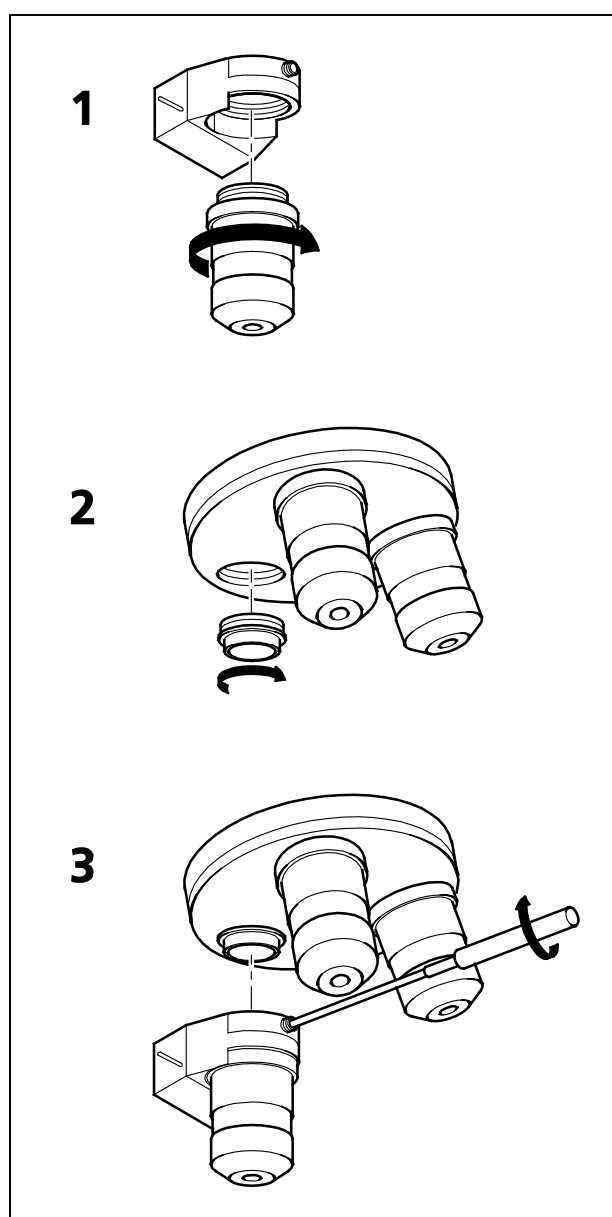

Fig. 9 Installation of the Piezo Objective Focusing Device
- Screw in your microscope objective into Piezo Objective Focusing Device (see Fig. 9/1).
- Screw the thread-ring into your microscope (see Fig. 9/2).
- Easy clamp the Piezo Objective Focusing Device on the thread-ring (see Fig. 9/3).